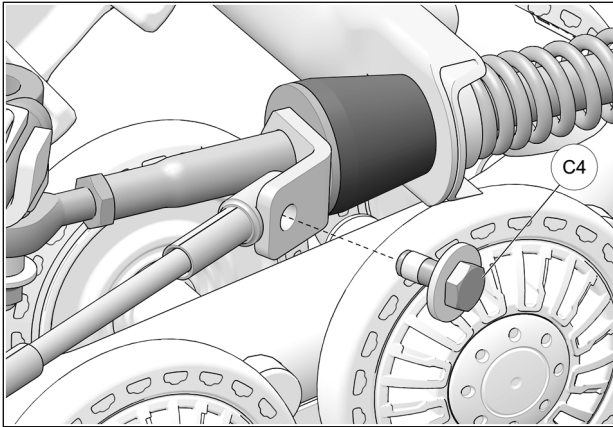

Fig. 19
14. Reverse steering wheel a little to be able to bolt support plate and cable together. Tighten provided bolt **(C4)** to 35 N•m [24 lb•ft]. See Fig. 19. Repeat steps on right side.